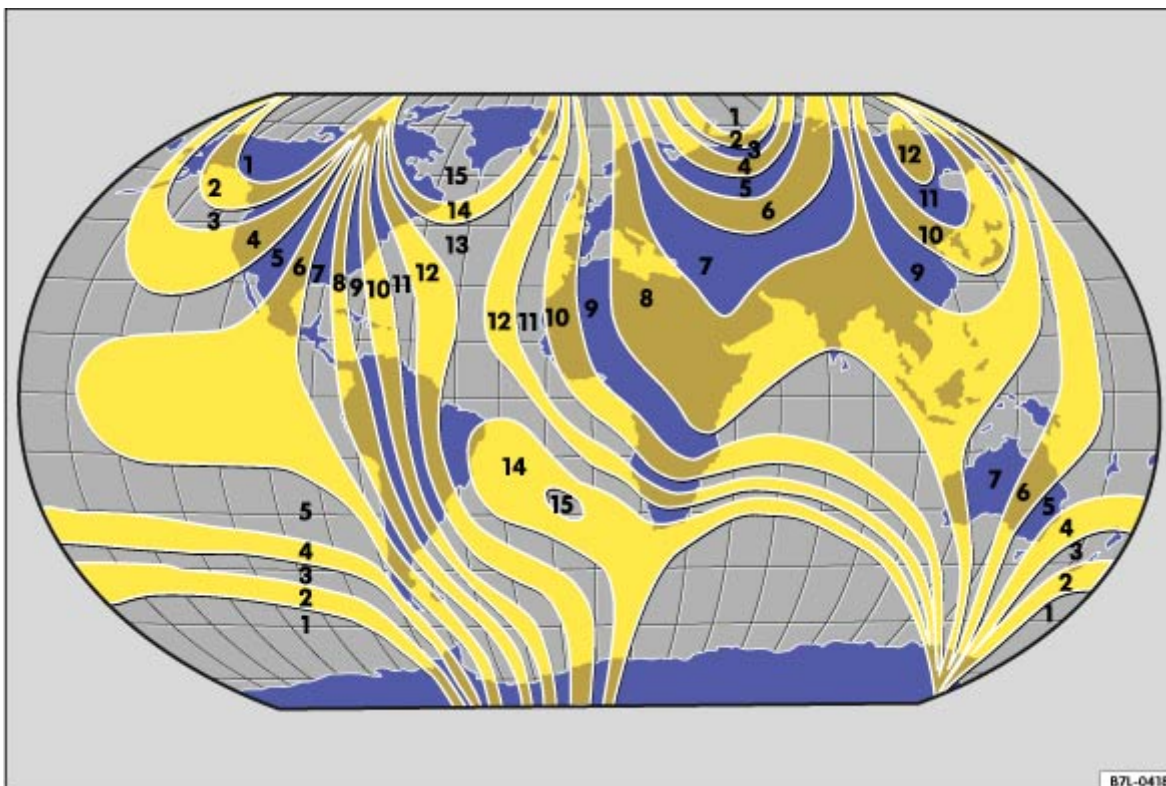

Fig. 13 Compass zones
- Select the compass zone to match your location → Fig. 13.